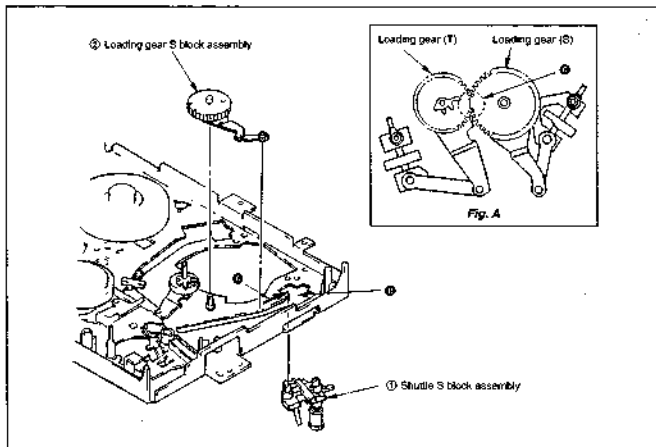

Fig. 3-22
**(Fig. 3-22)**
- 6) Sliding the shuttle S block assembly ① toward the direction ②, remove it through the hole ③.
- 7) Pull out loading gear S block assembly ④.
- Adjust the phase ⑤ between loading gear (S) and loading gear (T) (Fig. A)
- Keep clean the surface contacts tape of shuttle S block assembly ①.